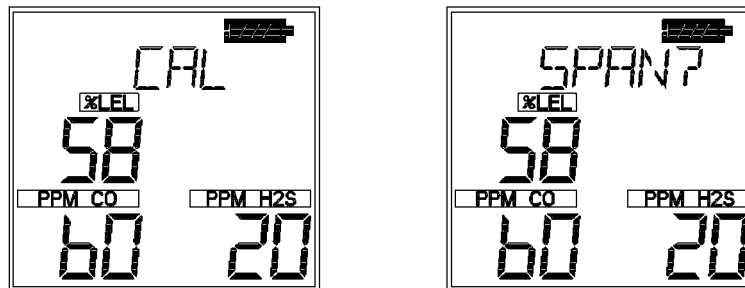

Figure 4-3. CAL Flag
- Once the zeros are set, **CAL SPAN?** flashes (FIGURE 4-3).